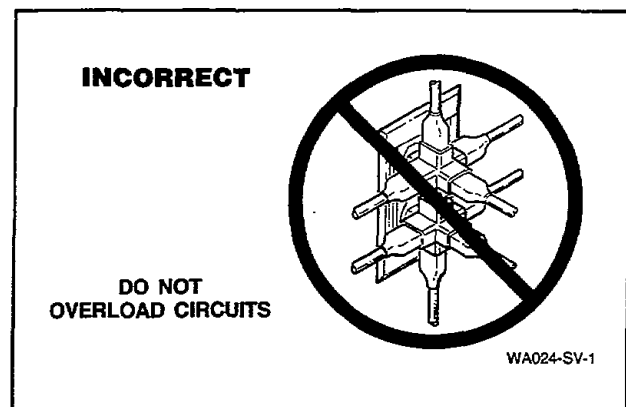

Figure 60
- **DO NOT OPERATE OTHER APPLIANCES ON THE SAME CIRCUIT. DO NOT OVERLOAD CIRCUITS!** See *Figure 60*.